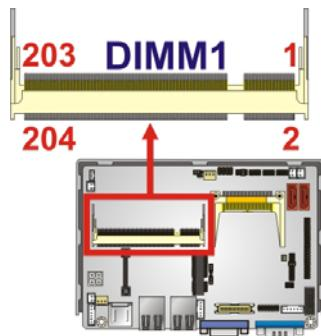

Figure 3-20: SO-DIMM Connector Location
**CN Location:** See **Figure 3-20**